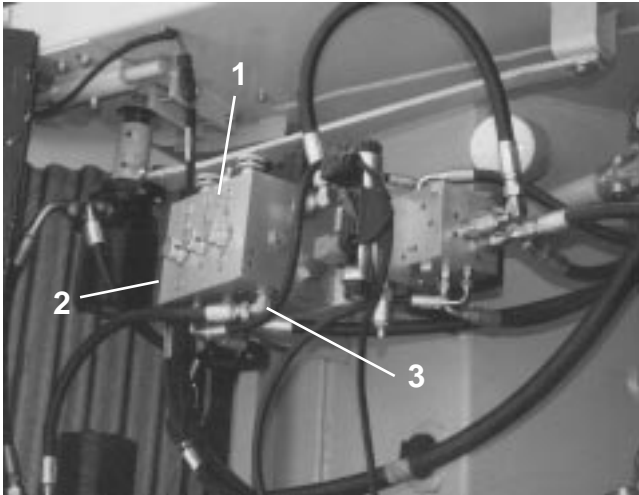

Figure 30 Conveyor/Spreadroll Manifold
1) Install a 5000 psi gage in the port marked “GLS” on the conveyor manifold located on top of the hydraulic reservoir (Fig 30, Ref 1). This port is SAE 04 and requires a 3/16 allen wrench to remove the plug. Remove the pressure hose plumbed to the left conveyor at the manifold and cap the adapter in the port marked “LP” with a 1/2” (08) JIC hydraulic cap.
1) Install a 600 psi gage in the port marked "G" on the conveyor manifold located on top of the hydraulic reservoir (Fig 30 Ref 3). This port is SAE 04 and requires a 3/16 allen wrench to remove the plug.